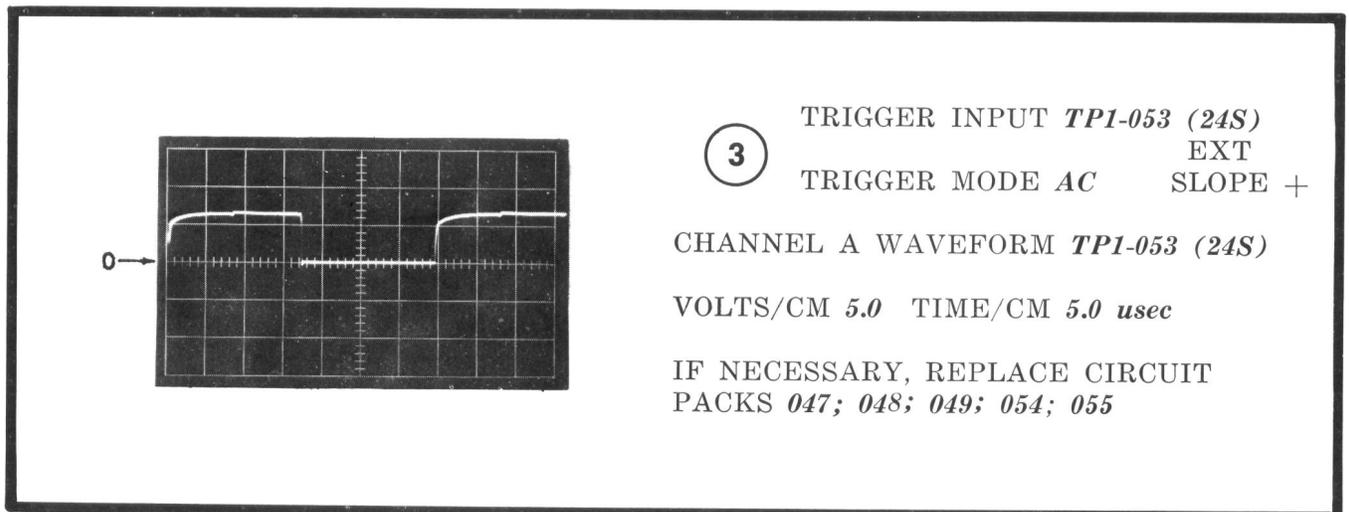
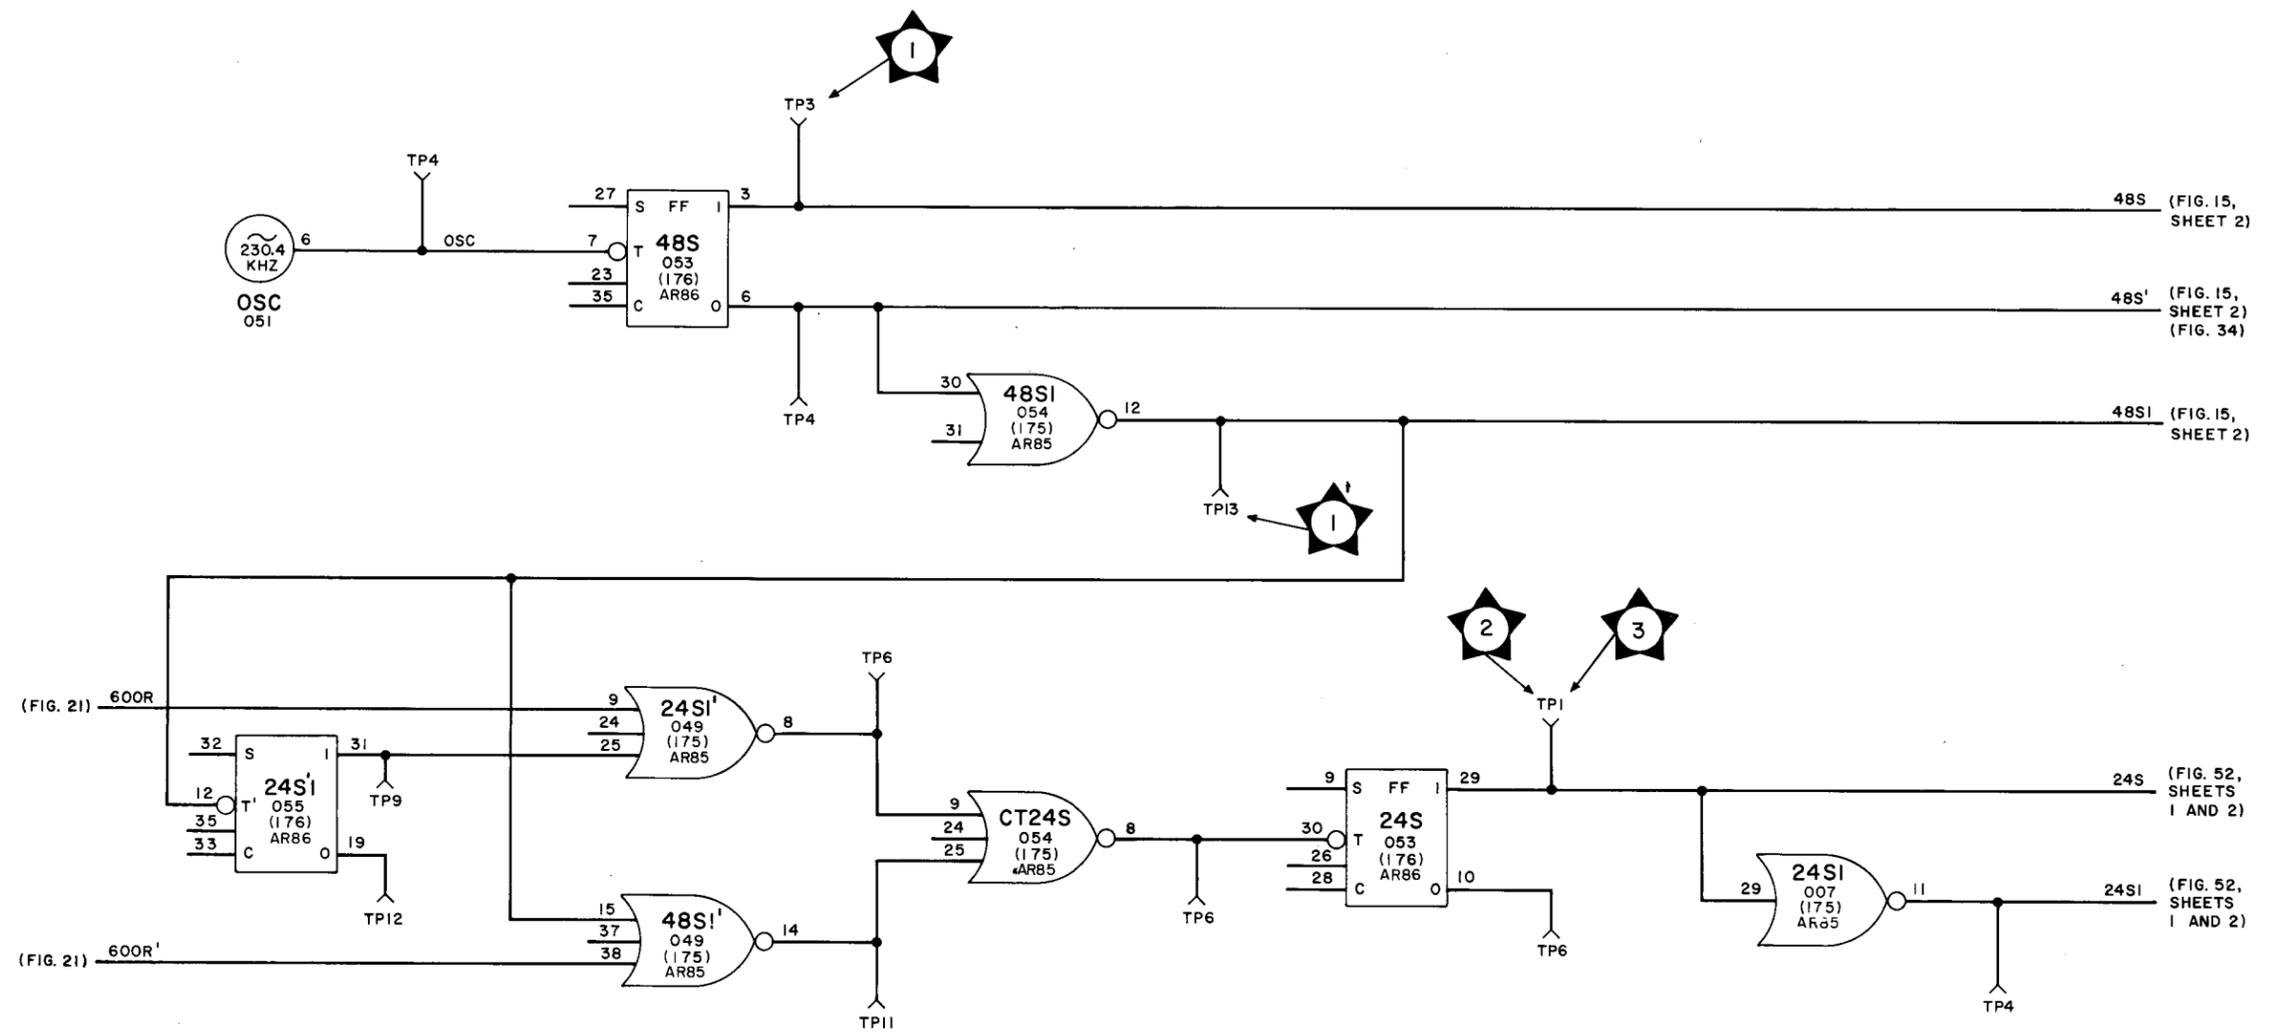

Fig. 7 — Clock Circuit Waveforms
Fig. 8 — Clock Circuits, Functional Schematic
11.17 The clock circuit consists of a 65A oscillator and associated countdown circuits. The clock circuit components generate square-wave signals at frequencies required by both transmitter and receiver sections of the data set. Waveforms shown in Fig. 6 and Fig. 7 represent normal operation of the clock circuits and are keyed to the respective test points on the functional schematic shown in Fig. 8. Replace the suggested circuit packs if the proper result for each test is not obtained.